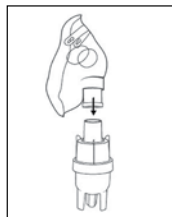

Fig.3
- d. Attach the selected inhalation device: angled mouthpiece, nosepiece or mask (adult/child) to the top of the nebulizer, taking care not to spill the medication in the cup, Fig 3.